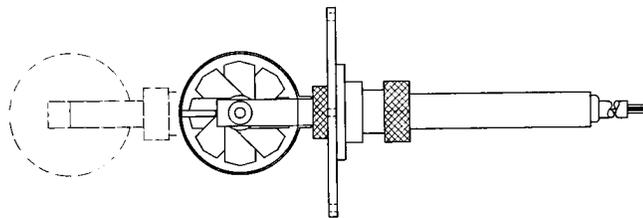

Figure 2. Dynalec pinwheel sensor (models 62413-005 and -006)
- Pinwheel Sensor (1000 ft/min) (1PIN): Dynalec Model 62413-005 (Figure 2)
- Pinwheel Sensor (5000 ft/min) (5PIN): Dynalec Model 62413-006 (Figure 2)